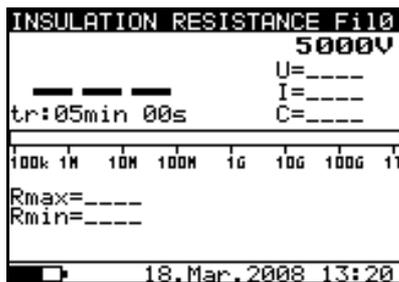
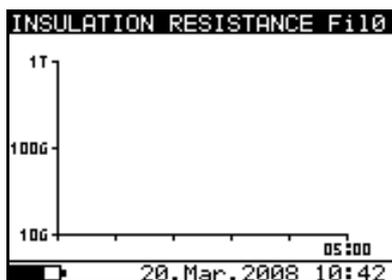

Fig. 20: Initial numerical screen
Fig. 22: Initial graphical screen
2. Select with arrow keys **▼** or **▲** the item "INSULATION RESISTANCE" on main menu and confirm with **SELECT** key. The screen of Fig. 20 is shown by the meter. In case of activation of Graphic R(t) option press arrow keys **▼** or **▲** to select the graphical screen of Fig. 22